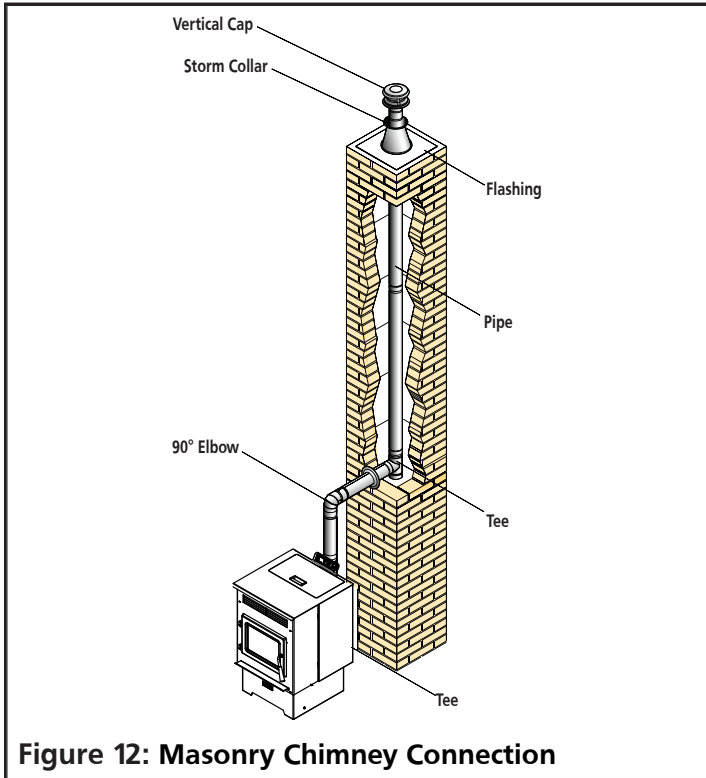

Figure 12: Masonry Chimney Connection
2. The chimney connection must not be obstructed by the chimney connector pipes, such as the Figure 12 below illustrates.